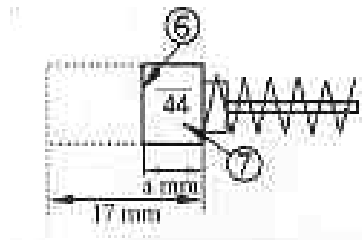

Fig 5
The motor contains carbon brushes that are consumable parts; since an excessively worn carbon brush could result in motor trouble, replace the carbon brush. Wear limiter (6) No of carbon brush (7). (See Fig 5)